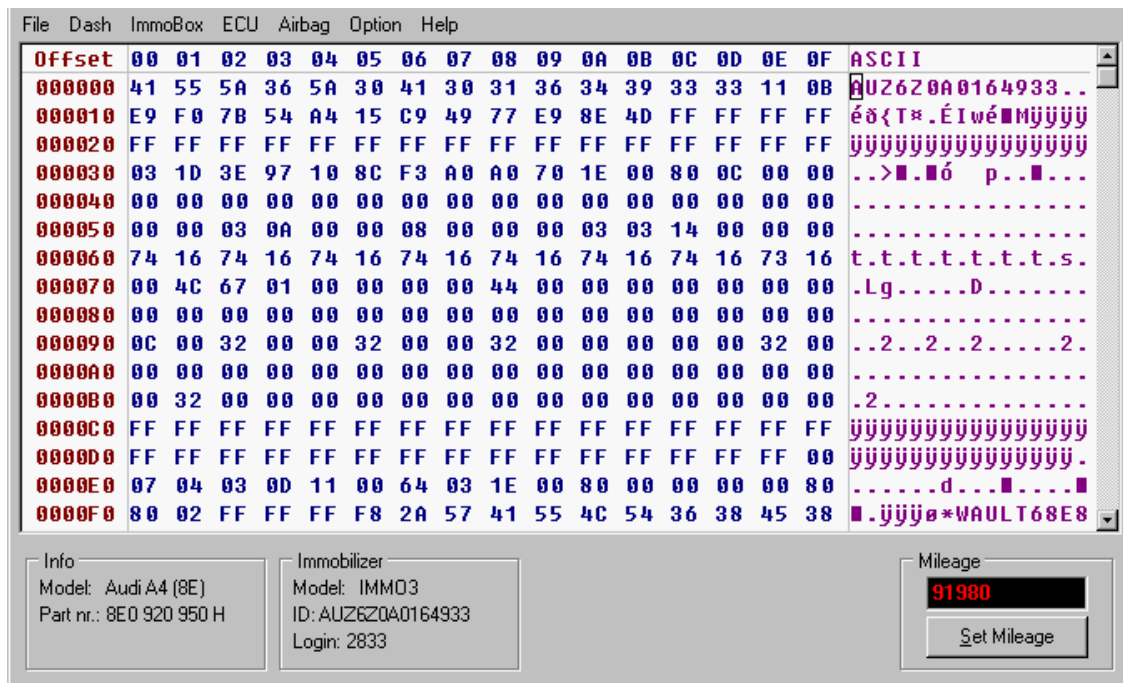

figure 2
Here's the solution for this software level on this cluster on figure 2 and 3.
Sometimes the technician would need to verify the acquired PIN before adapting any key, Instrument cluster or Engine controller. The next figure (3) indicates a match. This match is possible because a bin file was saved. The bin file is the data from this cluster. In figure 2, the hex values are run through a mathematical equation and the output is the data seen at the bottom of figure 2 and figure 3.